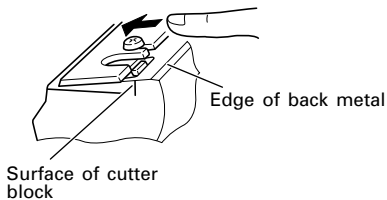
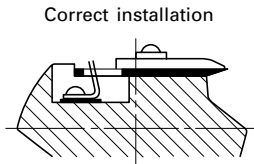

Fig. 7
Fig. 8
- (1) Turn the flat surface of the cutter block sideways, and assemble the adjusted cutter blade as shown in Fig. 7. Ensuring that the leaf spring on the cutter block is correctly fitted to the hole on the rear plate, push the back of the cutter blade with a fingertip in the direction indicated by the arrow, until the edge of the back metal is properly fitted to the cutter block surface. Correct installation is illustrated in Fig. 8.